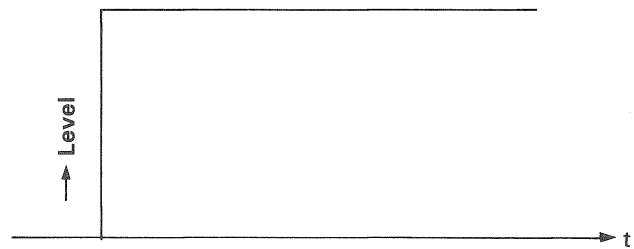

Fig. 2 Input wave form at point (a)
- (1) When a sharply rising signal (a), such as a high frequency square wave, is fed to the amplifier A, the output signal waveform will be modulated as in (b) due to the effects of the rise time since there is a limit to the frequency response of the amplifier.
- (2) NFB is a system which feeds a part of the output signal back to the input stage inverting its phase. So waveform (b) turns into waveform (c).
- (3) If the dynamic range of the preamplifier stage is not wide enough the signal will be clipped at its peak and distortion will naturally result. If the transient voltage velocity is limited by the slew rate, the distortion will also result in the same way. (Refer to Fig. 2, 3, 4 and 5)